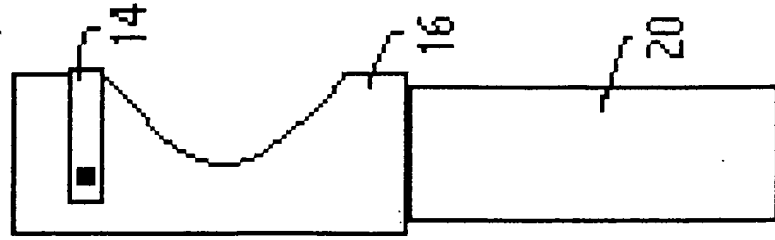

FIG. 7A
- Fig 7A shows built-in metal clip 14, ~~(rubber)~~ SILICONE COVER boot not shown.